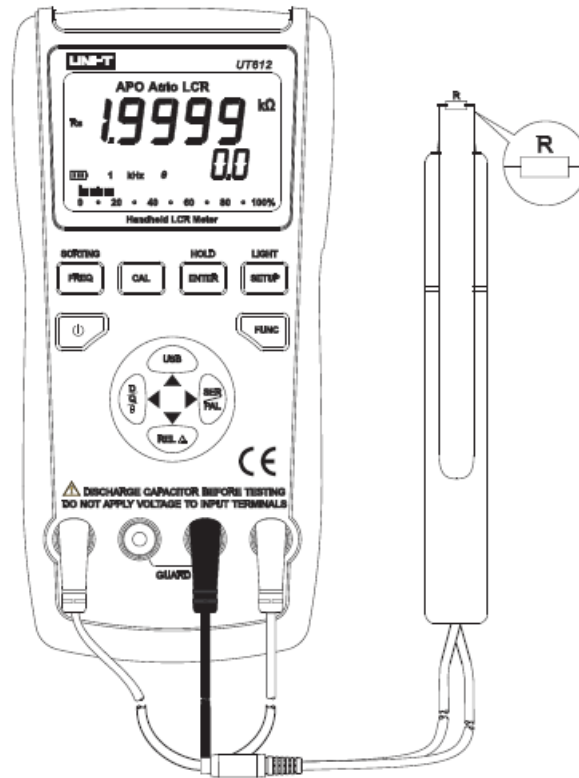

Figure 12
3. Insert the resistor into input terminals or connect the resistor to the meter using the test clamp(See Figure 12)